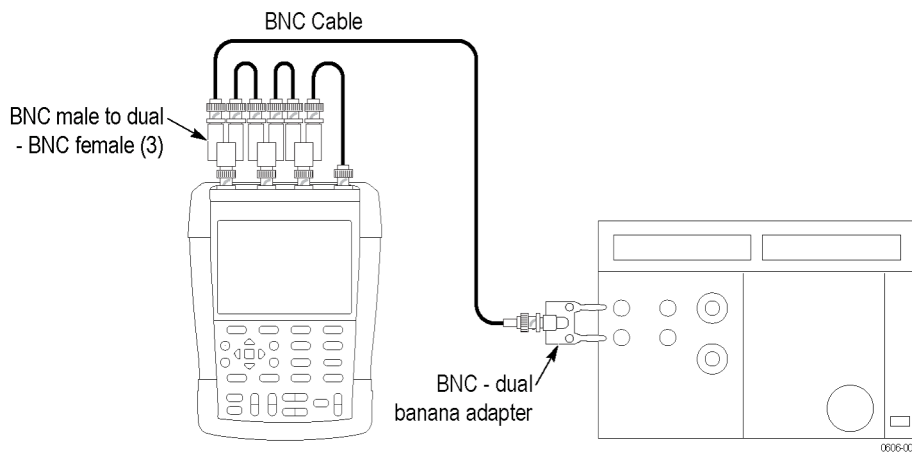

Figure 12: Input to 5500A normal output test setup
1. Connect the generator to the oscilloscope as shown. (See Figure 12.)